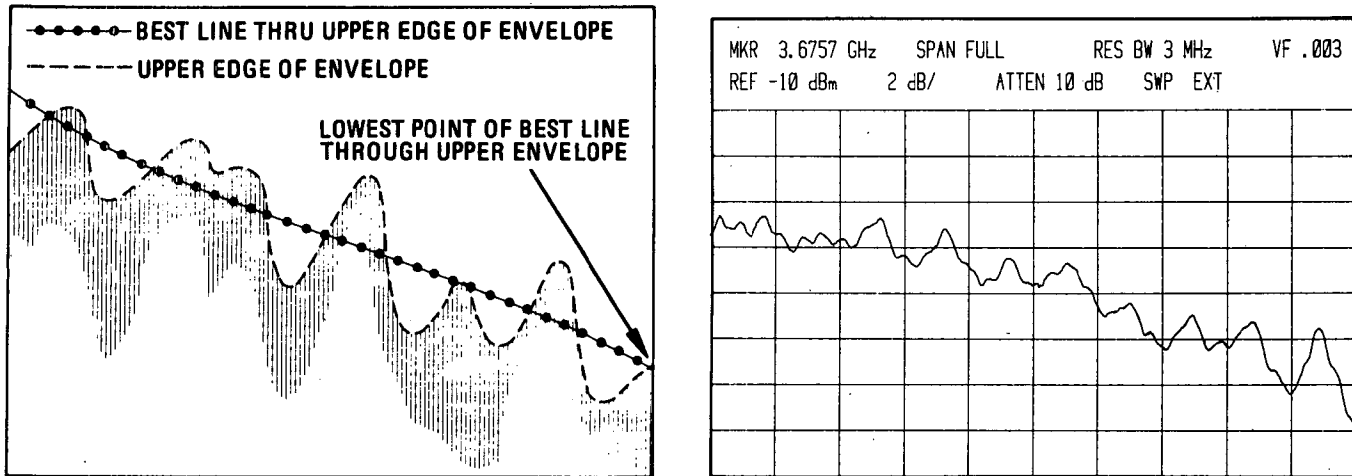

Figure 5-54. Best Line Relative to 1 kHz Modulation Envelope
The 'best line,' as used in the following procedures, approximates the median line between the peaks and troughs of the upper edge of the 1 kHz modulation envelope. The best line is illustrated in Figure 5-54.
8. Note best line as illustrated in Figure 5-54. Adjust REFERENCE LEVEL controls to set lowest point of that line on center horizontal graticule line. This point is used as a reference in checking for approximately same power level in frequency bands 5.8 - 12.9 GHz, 8.5 - 18 GHz, and 10.5 - 22 GHz (steps 9 through 14).
15. With equipment connected as shown in Figure 5-54, set A28S1 NORM-OFF-TEST switch to NORM. Set spectrum analyzer FREQUENCY BAND GHz to 3.8–8.5, INPUT ATTN to 10 dB, REF LEVEL dBm to -10 , and REFERENCE LEVEL FINE to 0. Set synchronizer ERROR SIGNAL switch to $-$. Set sweep oscillator to sweep from 3.8 GHz to 8.5 GHz. Set TRACE A and TRACE B to STORE BLANK.
28. With equipment connected as shown in Figure 5-54, set spectrum analyzer FREQUENCY BAND GHz to 1.7–4.1 GHz and set SWEEP SOURCE to EXT. Set synchronizer ERROR SIGNAL switch to -. Set sweep oscillator to CW and adjust CW control to approximately 2.9 GHz. Set ΔF X10 to 2.4 GHz. Phase lock sweep oscillator and set output power level as follows: